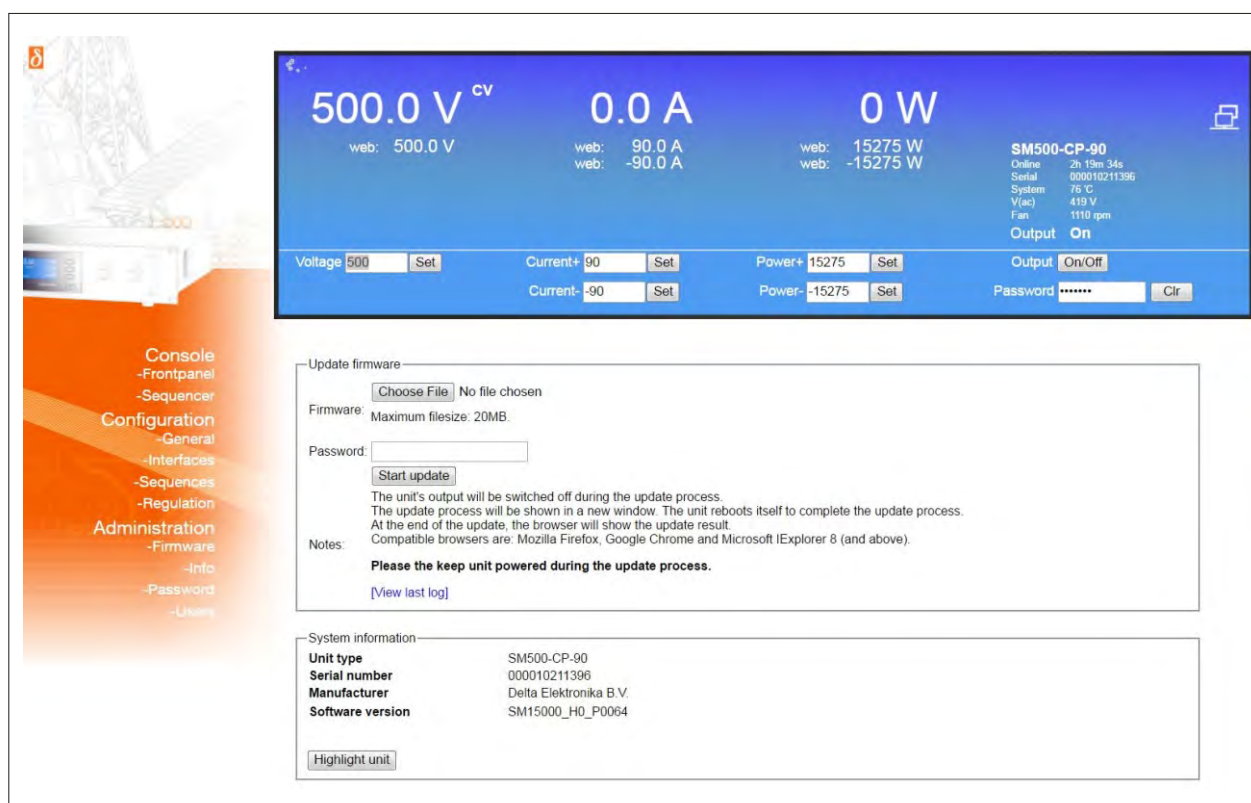

fig. 6 - 3 Via the web interface the downloaded firmware package can be uploaded to the unit.
- Select "Choose File" and browse to the downloaded package, enter password and "Start Update". See below figure 6 - 3 for a screen shot of the web interface.